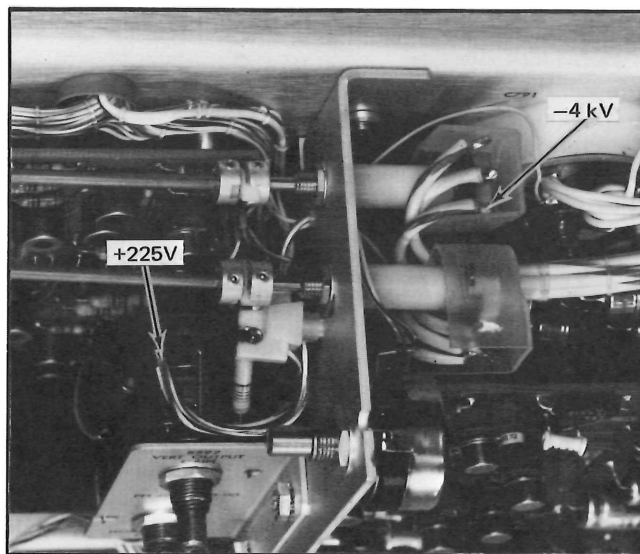

Fig. 1-2. Location of high voltage test points on right side of instrument.
e. Set the meter for measuring -4 kV. Connect the positive lead of the meter to the arm of the INTENSITY control, R883 (see Fig. 1-2) connected to the white and purple wire.